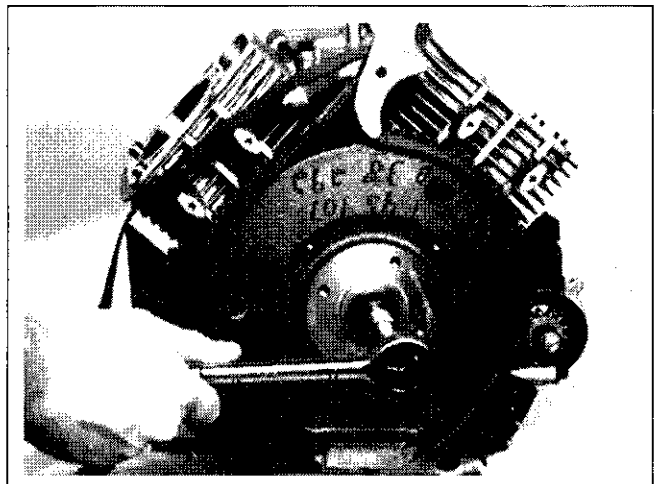

Figure 9-54. Removing Flywheel Fastener Using Strap Wrench.
1. Use a flywheel strap wrench or holding tool (see Section 2) to hold the flywheel and loosen the hex. flange screw securing the flywheel to the crankshaft. See Figure 9-54.